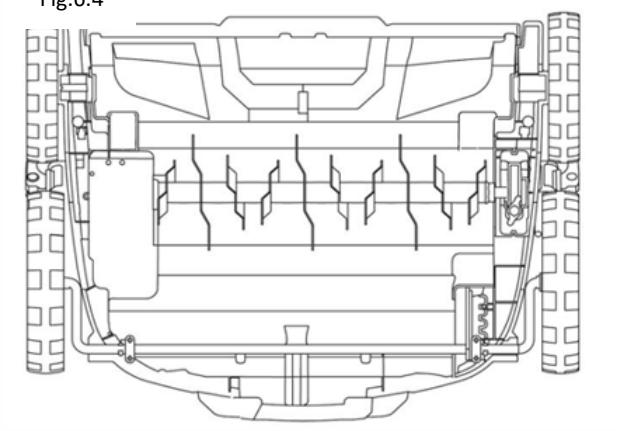

Fig.6.5
25. Use of aerator roller (Fig. 6.5)
- Insert the fan blade system by reversing the process of removing the scarifier blade system (Fig. 6.5).